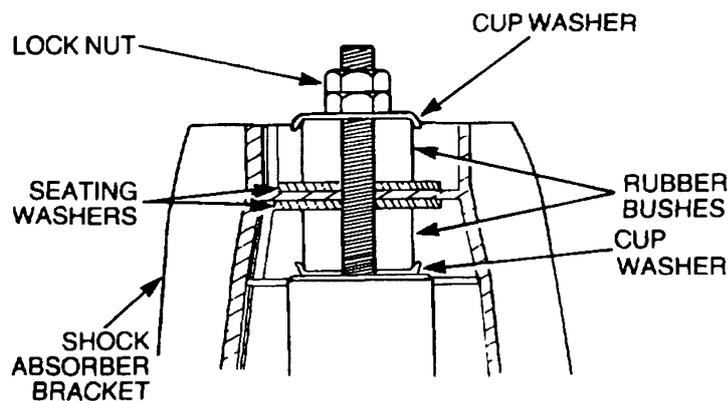

Figure 144 Front Shock Absorber Installation
- b. Install the bushes and washers (Figure 144).